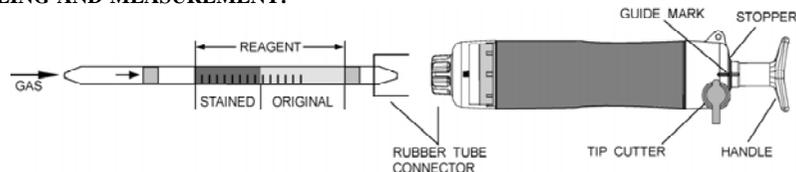

Fig.1
- ② Insert the detector tube into aspirating pump securely as shown in Fig.1. (Arrow mark shall point to the pump.)
- ③ Align the guide marks on the handle and stopper of the aspirating pump.
- ④ Pull the pump handle at full stroke until it locks and wait for 1.5 minutes or until the completion of sampling is confirmed with the flow indicator of the pump (See descriptions about the flow indicator in the instructions of the pump).
- ⑤ On completion of sampling, read the scale at the maximum point of the stained layer.
- ⑥ In case of 2 pump strokes, push the handle once more without removing the detector tube from the pump inlet, turn it right or left 1/4 and repeat step ④ once.
- ⑦ In this case, actual concentration is half of the reading value.
- ① Temperature; Correct the tube reading by following temperature correction table.